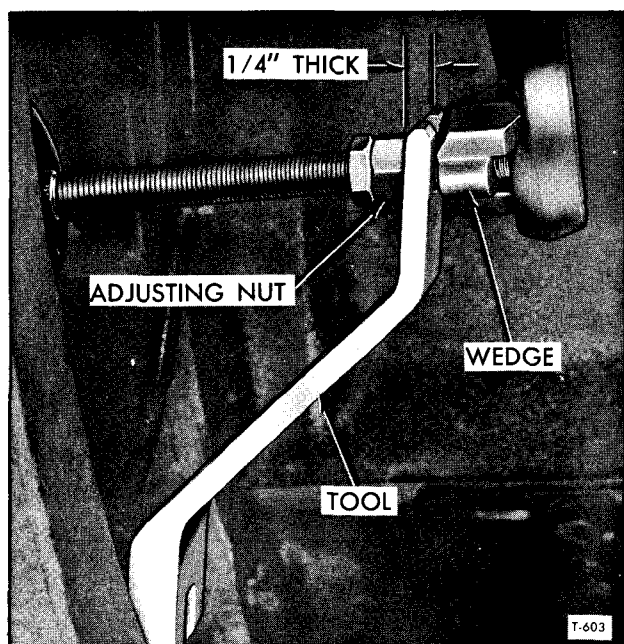

Figure 19—Checking Push Rod Clearance Using Small End of Tool
NOTE: A tool for checking clearance or the push rod nut position can be improvised locally. See figure 19 which shows dimensions of tool. A short ruler can be used to measure clearance if tool cannot be made available. Adjustment is necessary when this clearance at the wedge is reduced to or near $\frac{1}{4}$ -inch. The proper clearance between wedge and adjusting nut should measure $\frac{1}{2}$ -inch.
2. With the push rod and piston seated in the slave cylinder, push clutch fork and wedge on push rod away from the slave cylinder. Insert smaller end of gauge on push rod between the adjusting nut and wedge (fig. 19). If the tool will not go between the nut and wedge the push rod needs to be adjusted. If the small tool end fits between the adjusting nut and wedge, the rod does not require adjustment.